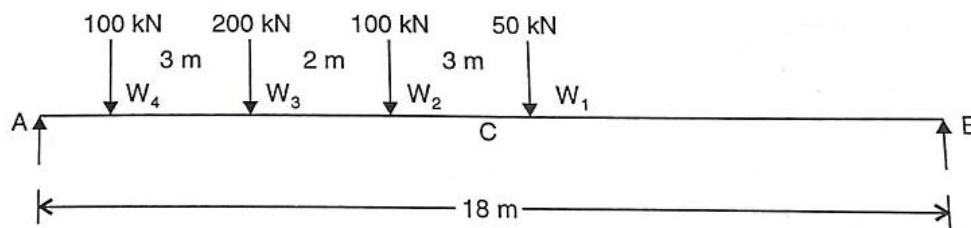

Figure 3.7
9. A girder having a span of 18 m is simply supported at the ends. It is traversed by a train of loads as shown in Figure 3.7. The 50 kN load is leading. Find the maximum bending moment which can occur (i) Under the 200 kN (ii) Under 50 kN load